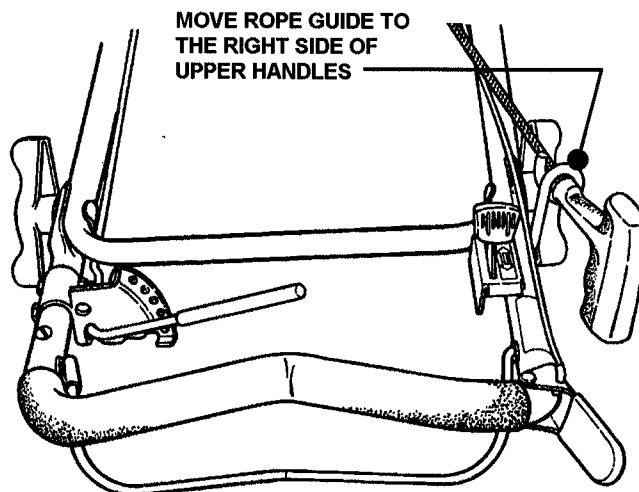

FIGURE 7
STEP 6: Pull blade control against handle, hold in this position, unwrap rope from rope guide. Rope and handle will retract back into engine. Release blade control. Remove rope guide from left side of handle. Reinstall guide to the right side of handles using mounting hardware that secures engine speed control. Pull blade control against handle, hold in this position, and pull rope start with handle up past rope guide. Hold in this position and release blade control and use both hands to loop the rope back through the rope guide. See Figure 7.